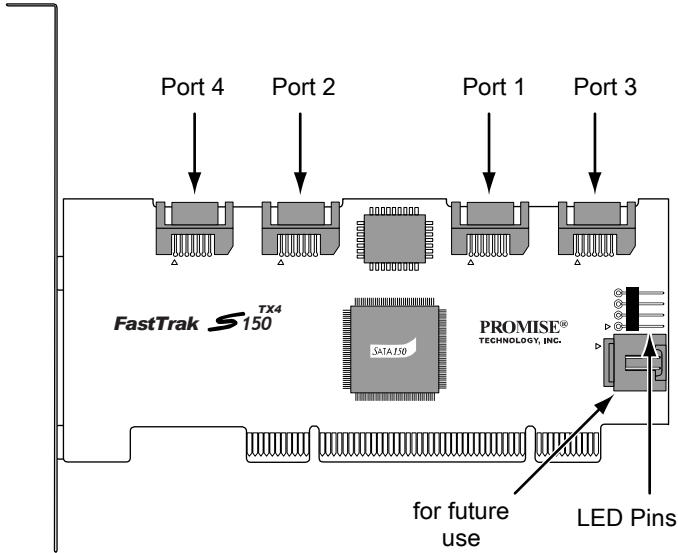

Figure 2. FastTrak S150 TX4 card
4. Attach your system case's 2- or 4-pin LED cable to the LED connector on the FastTrak S150 TX4 RAID card (see Figure 2, on page 8). Make sure that pin 1 on the connector is aligned with pin 1 of the cable.